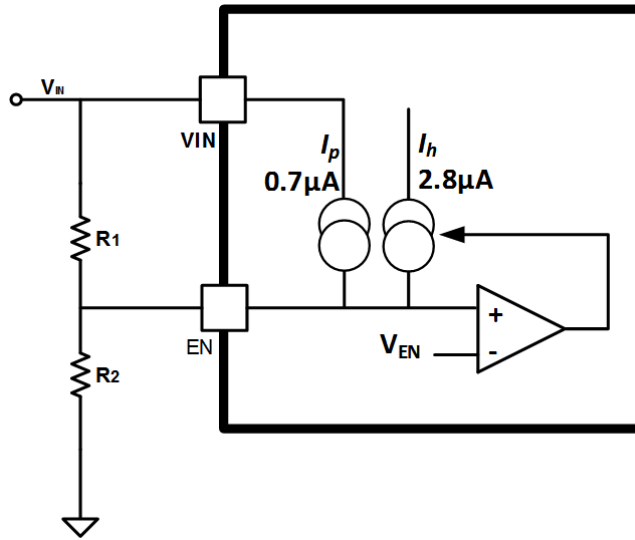

Fig. 28 Input Under-Voltage Lockout Setup
EN (E1)	Enable pin with internal pull-up current source. Pull this pin to below 1.18V to disable the power module. Float this pin or pull to above 1.3V to enable the power module. This pin can be used to adjust the under voltage lockout (UVLO) level with two additional resistors forming a voltage divider from V _{IN} to AGND as shown in Fig. 28.
Under-voltage lockout can be used to prevent the output from starting until the input voltage is within its normal range. For input under voltage lockout (UVLO) adjustment, use the EN pin as shown in Fig. 28 to set the UVLO level by using two external resistors. Once the EN pin voltage exceeds 1.3V, an additional 2.8μA of current is added to provide input voltage hysteresis. Resistor R_{EN1} and R_{EN2} can be calculated using Equations (4) and (5) based on the required startup voltage and shutdown voltage.